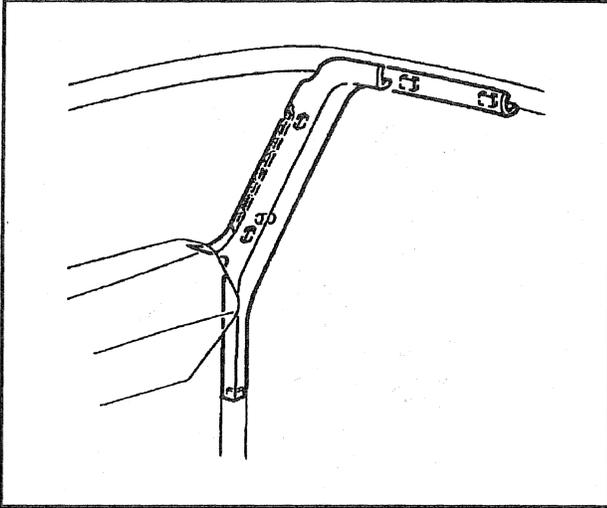

Figure 21—Windshield Garnish Molding Replacement
**↔↔ Remove or Disconnect (Figure 21)**
**↔↔ Install or Connect (Figure 21)**